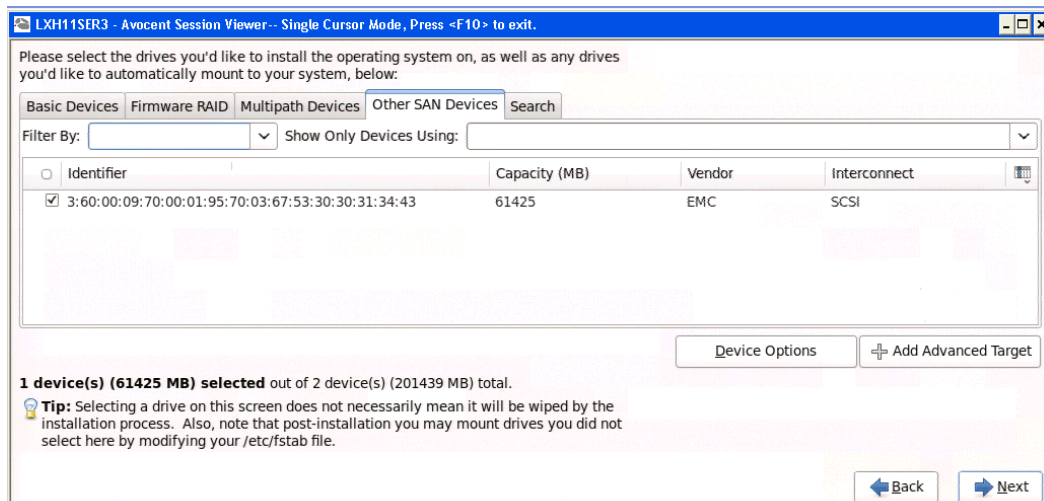

Figure 45 Selecting Other SAN devices
- Find the remote device on the **Other SAN Devices** tab and click **Add Advanced Target**, as shown in Figure 45.